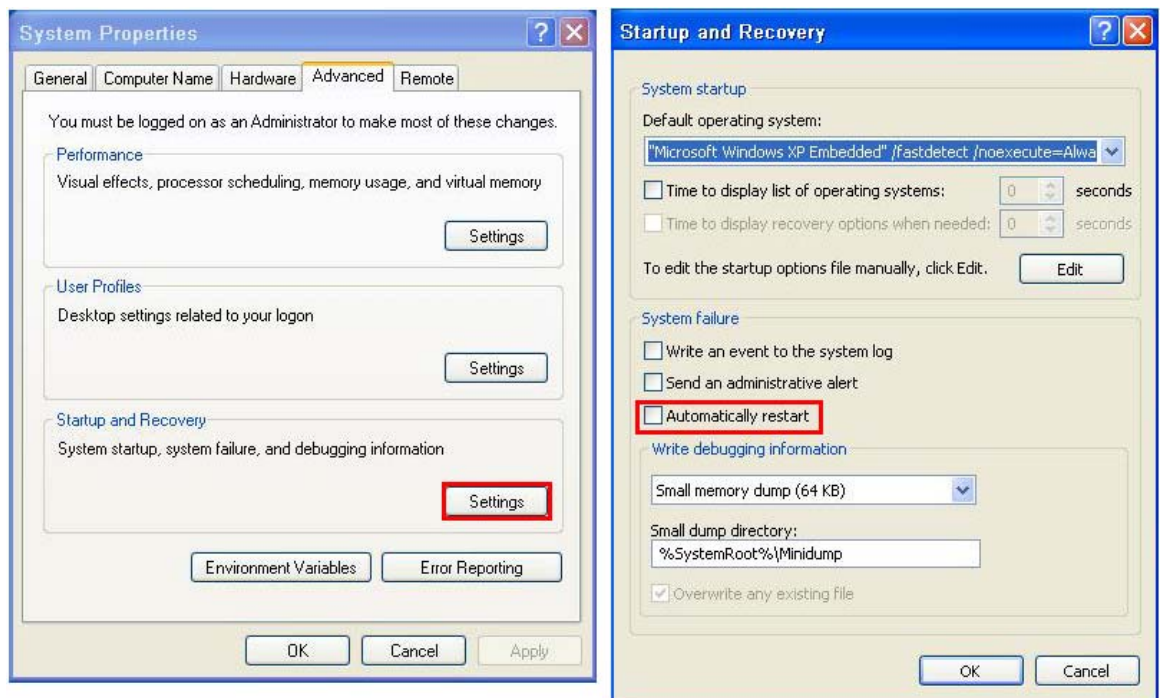

Figure B-23: Disable Automatically Restart
- Step 3:** **Disable the automatically restart function before creating the factory default image.** Go to: My Computer → Properties → Advanced. Click the Settings button of Startup and Recovery. Deselect “Automatically restart”. Click OK to save the settings and exit. (See Figure B-23)